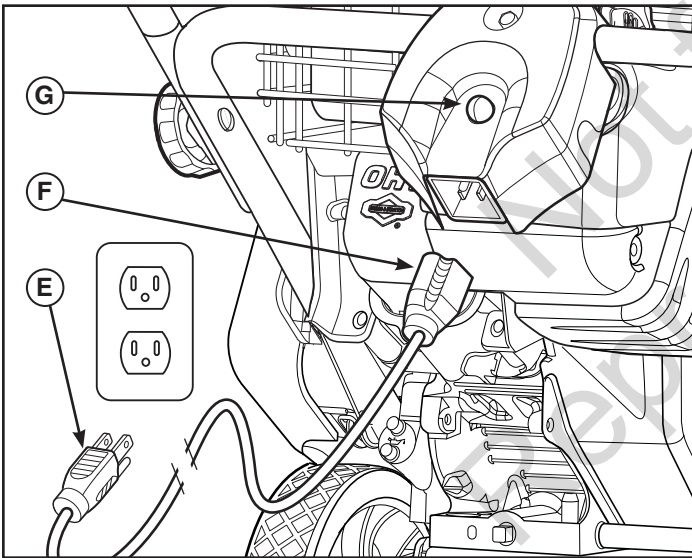

Figure 6
7. **Electric Start:** First connect the extension cord (E, Figure 6) to the power cord receptacle (F) and then into a wall receptacle. If additional extension cord is required, make sure it is three-wire.
8. **Electric Start:** Depress the starter push button (G). After you start the engine, first disconnect the extension cord from the wall receptacle and then from the power cord receptacle.